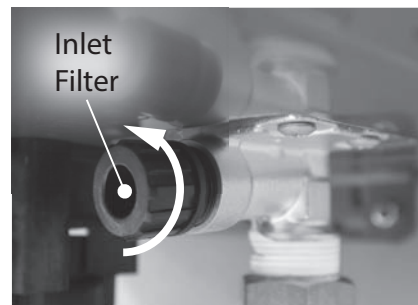

Figure 244 - Locate and remove inlet filter
- 7 Locate and remove the inlet filter as shown in Figure 244 to drain any residual water left in the system. Place a bucket or pan underneath inlet filter to collect water during removal.